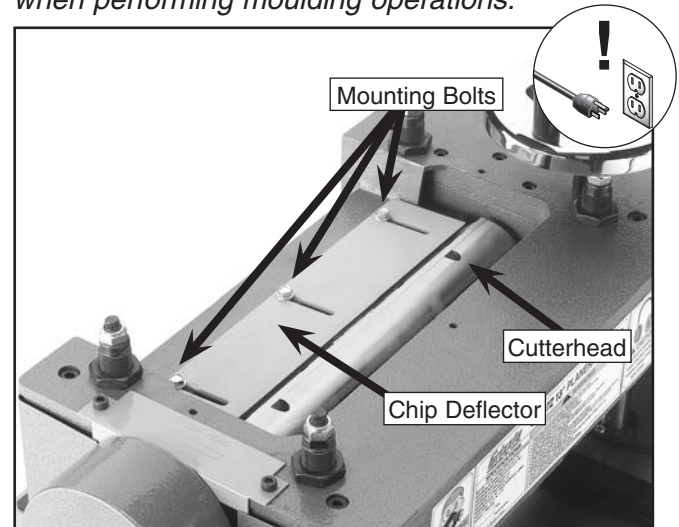

Figure 38. Chip deflector installed.
4. Position the chip deflector with a 1/4" gap between the knives and the deflector if the planer/moulder is attached to a dust collection system. See **Figure 38**. (Use a 1/8" gap if you are not using a dust collector.) Make sure the beveled edge of the deflector faces the cutterhead.